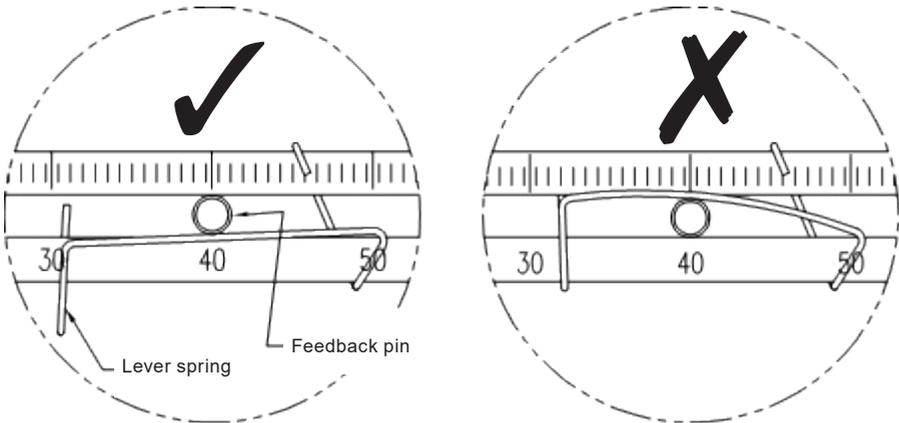

Fig. 8 Proper way to insert feedback pin between feedback lever and lever spring
5. Assemble positioner onto actuator, ensuring feedback pin engages with feedback lever and tensioning spring is the correct side of feedback pin, see Fig. 8. Move positioner up or down, so that feedback lever is horizontal.